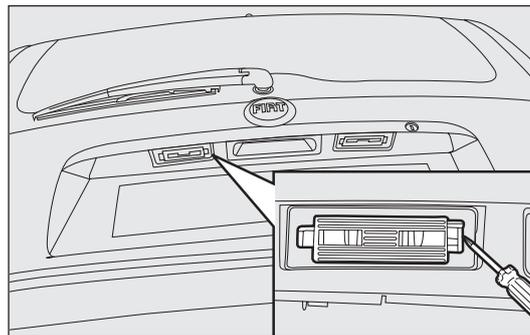
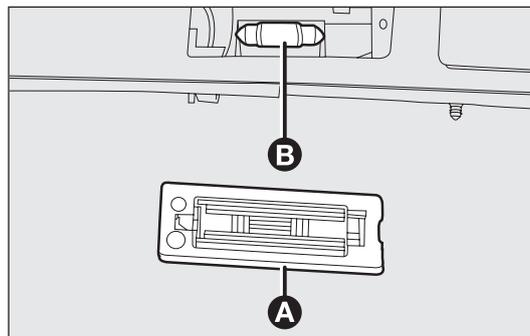

fig. I55
fig. I56
- use a screwdriver to remove the retaining spring as shown fig. I55 and remove the lens A-fig. I56; take out the bulb B from the bulb-holder;